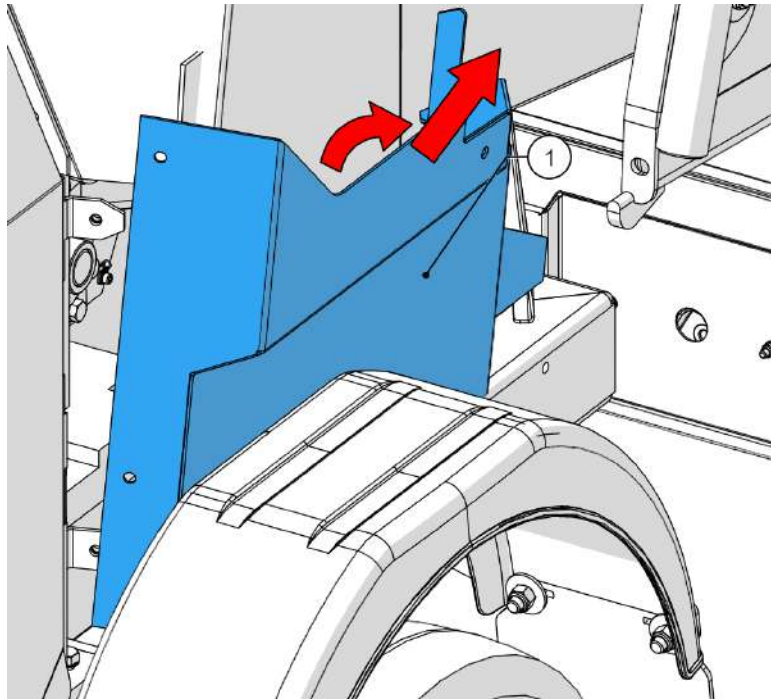

Figure 52 - Remove panel
4. Remove the panel (1, Figure 52).